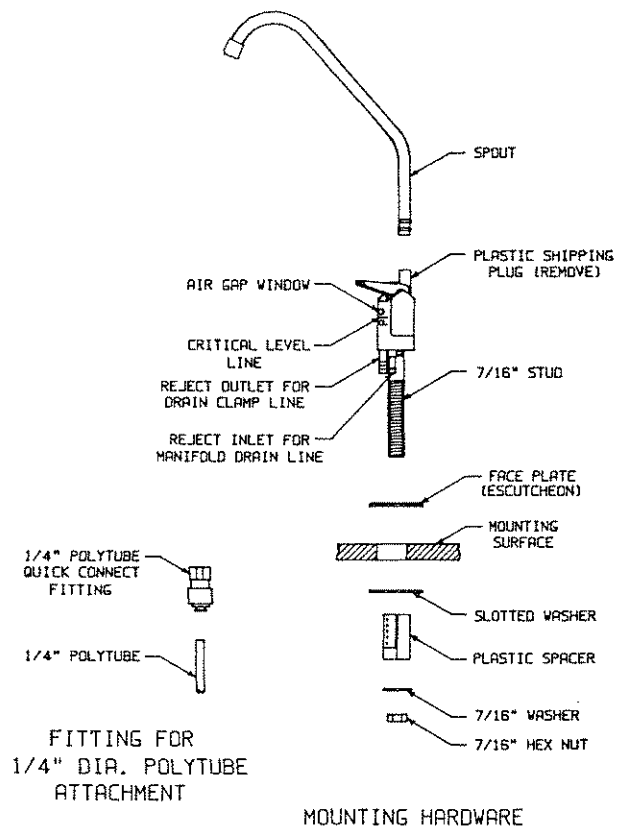

Figure 2
3. Assemble and attach the Faucet (Refer to Fig. 2. page 6.)